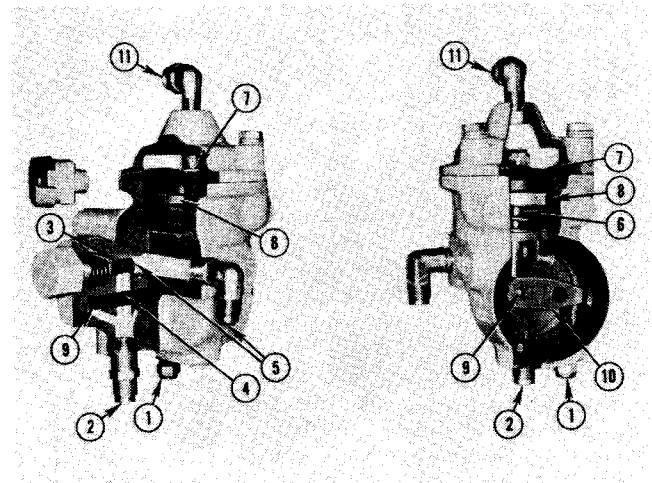

Fig. 5-9, (F-5244). Aneroid cutaway
The aneroid control, Fig. 5-9, provides a fuel by-pass
1. Fuel from the fuel pump enters aneroid and is directed to starting check valve area (5, Fig. 5-9).
2. The starting check valve (3) prevents aneroid from by-passing fuel at engine cranking speeds. For speeds above cranking, fuel pressure forces the check valve open, allowing fuel to flow to valve port (4) of shaft (9).
3. Shaft (9) and its bore form, a fuel by-pass valve. This shaft and bore allows passage or restricts fuel flow in a similar manner as throttle shaft and sleeve in PT fuel pump.
4. The shaft and sleeve are by-passing fuel when arm (10) of lever is resting against adjusting screw (1). The amount of fuel by-passed is adjusted by this screw, which protrudes from bottom of aneroid.
5. The lever arm connected to piston (8) by actuating shaft (6), rotates shaft; closing valve port. The lever is rotated by action of air intake manifold pressure (11) against piston and diaphragm (7), moving actuating shaft downward against resisting spring force. Fig. 5-9.
9. Fuel allowed to pass through by-pass valve is returned (2) to suction side (inlet fitting) of PT gear pump. The by-passed fuel reduces fuel pump out-put to engine and reduces fuel manifold pressure in proportion to the by-pass rate.